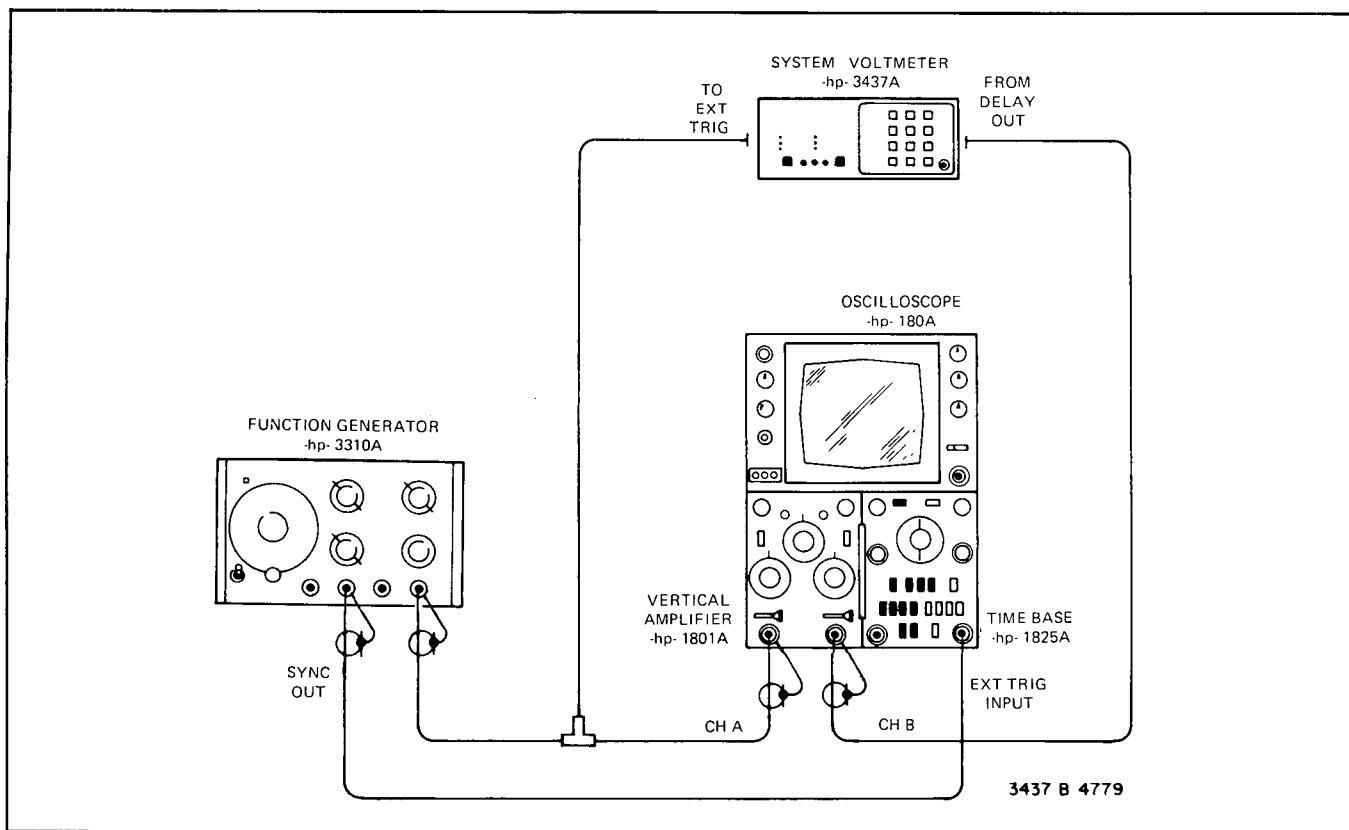

Figure 3-4. Delay Generator.
- Connect the equipment as illustrated in Figure 3-4.